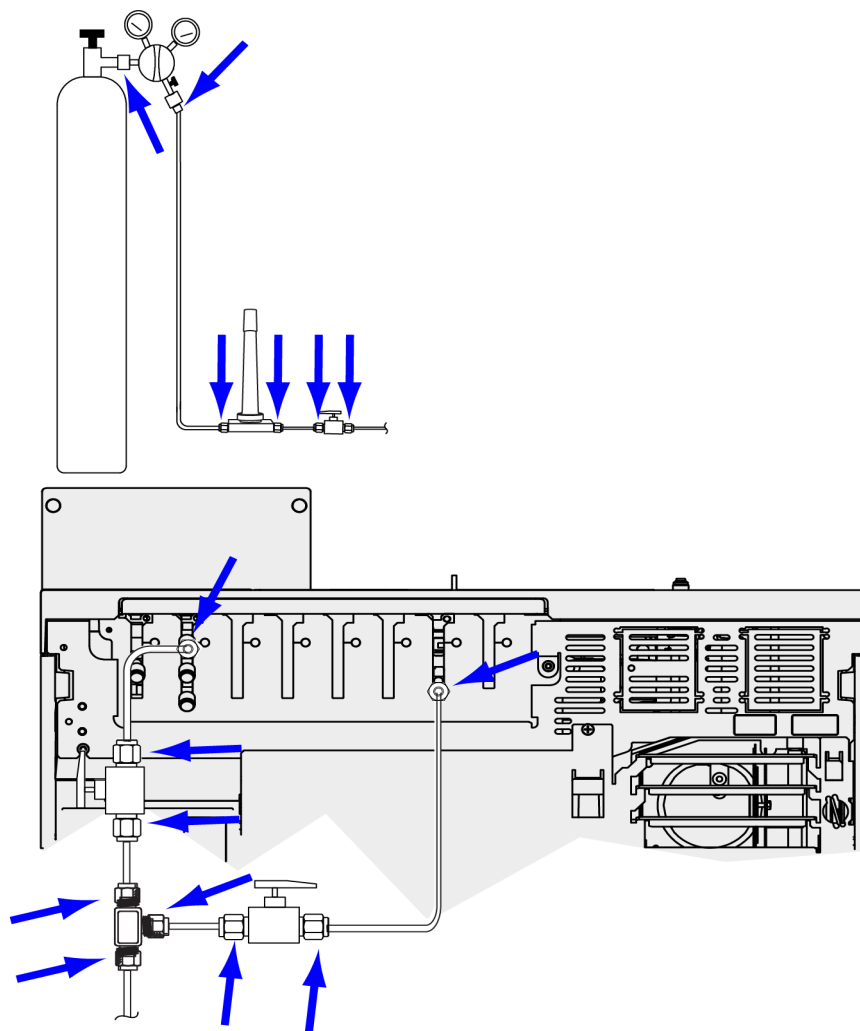

Figure 12. Locations to check for leaks
4. Wait 10 min. If there is a pressure loss greater than 7 kPa (1 psi), there is a leak in the external connections. Use the leak detector to check each fitting for leaks. See Figure 12.